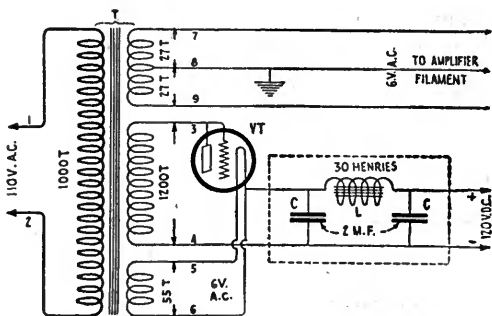

FIG. 1 A
four separate windings, each easily made. These windings are placed on two of the legs or branches of the core, as illustrated in Fig. 1. The core of the transformer is built up of strips or laminations of silicon steel .014 inches thick. The material for these strips can be bought at electrical supply houses, or it may be obtained from an old pole transformer which can often be had for the asking at the
2. Secondary—1200 turns No. 34 black enamel or d. s. c. wire, placed next to the core on the opposite leg of the transformer, as shown at S in Fig. 1. Two terminals numbered (3) and (4), Fig. 1A.